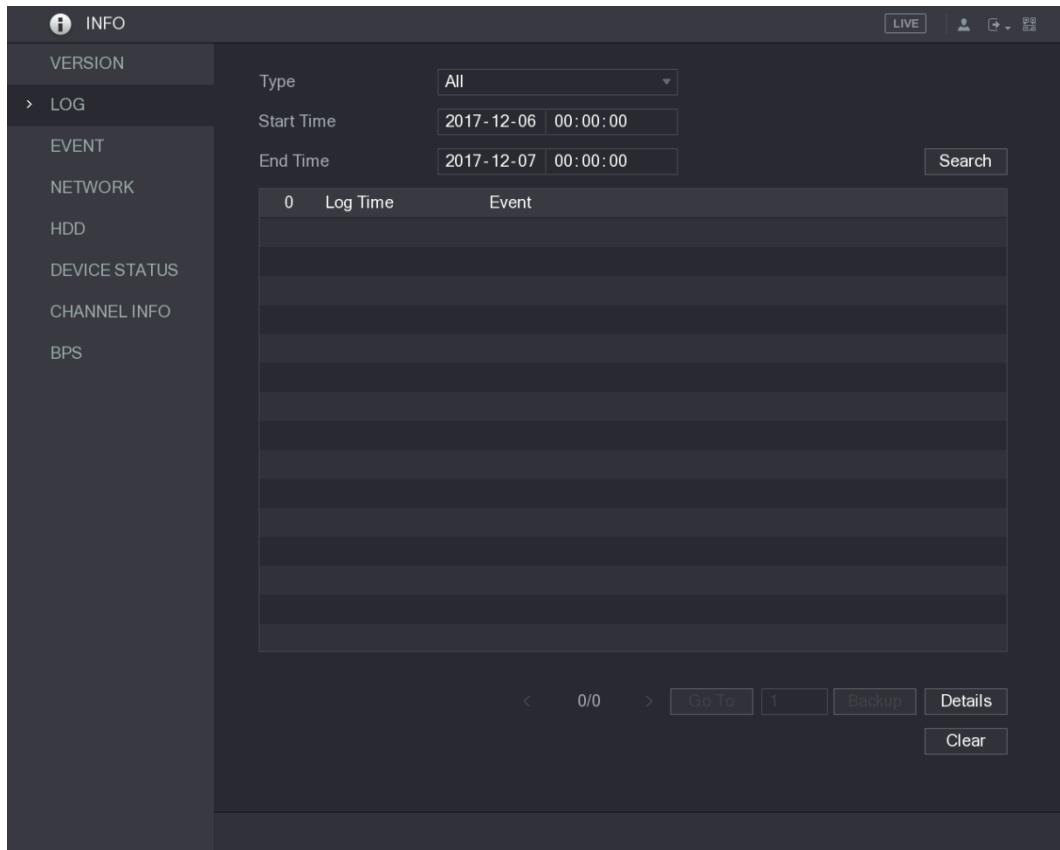

Figure 5-238
Step 1 Select **Main Menu > INFO > LOG**, the **LOG** interface is displayed. See Figure 5-238.